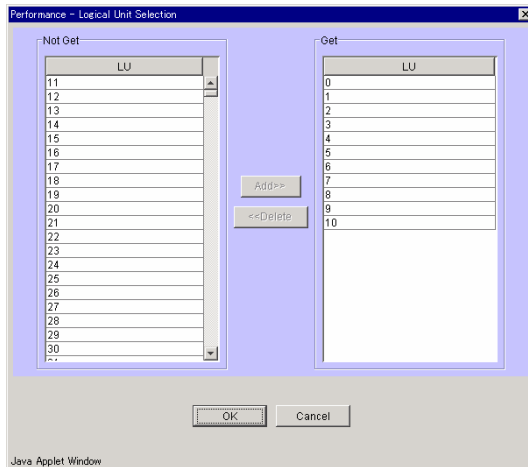

Figure 12.4 Performance - Logical Unit Selection
4. Click the number of the first LU you do not want to output. Scroll the LU numbers with the slider keeping the **Shift** key pressed, and click the number of the last LU. See Figure 12.4.